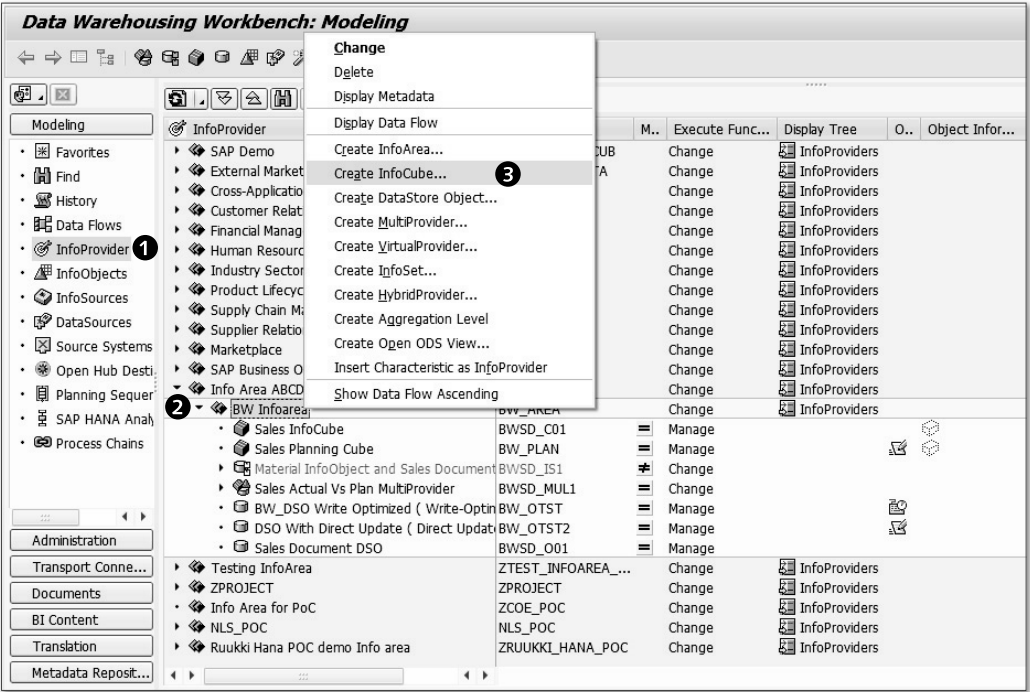

Figure 6.38 Creating an SPO: Part 1
An SPO is created in the DATABASE WAREHOUSING WORKBENCH screen, which is started using Transaction RSA1. Select INFOPROVIDER under MODELING from the navigator section, as shown in ❶ of Figure 6.38.